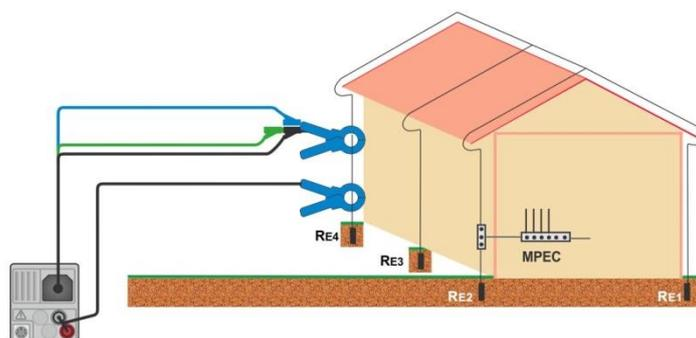

Figure 7.64: Contactless earthing resistance measurement
- › Clamp on object under test, see **Figure 7.64**.